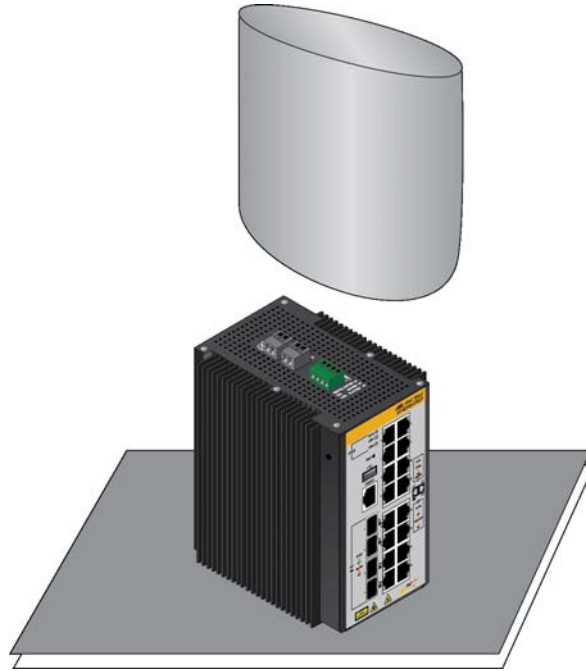

Figure 15. Removing the Switch from the Anti-static Bag
2. Remove the switch from the anti-static bag and place it on a level, secure surface. Refer to Figure 15.